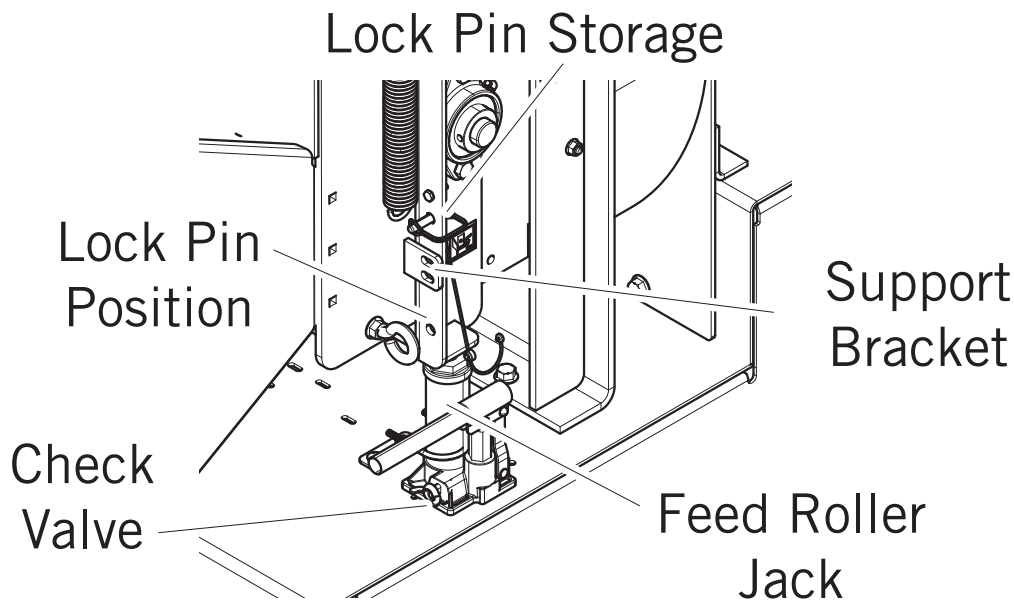

Figure 5.10.1
4. Remove the lock pin from storage position (see Figure 5.10.1).